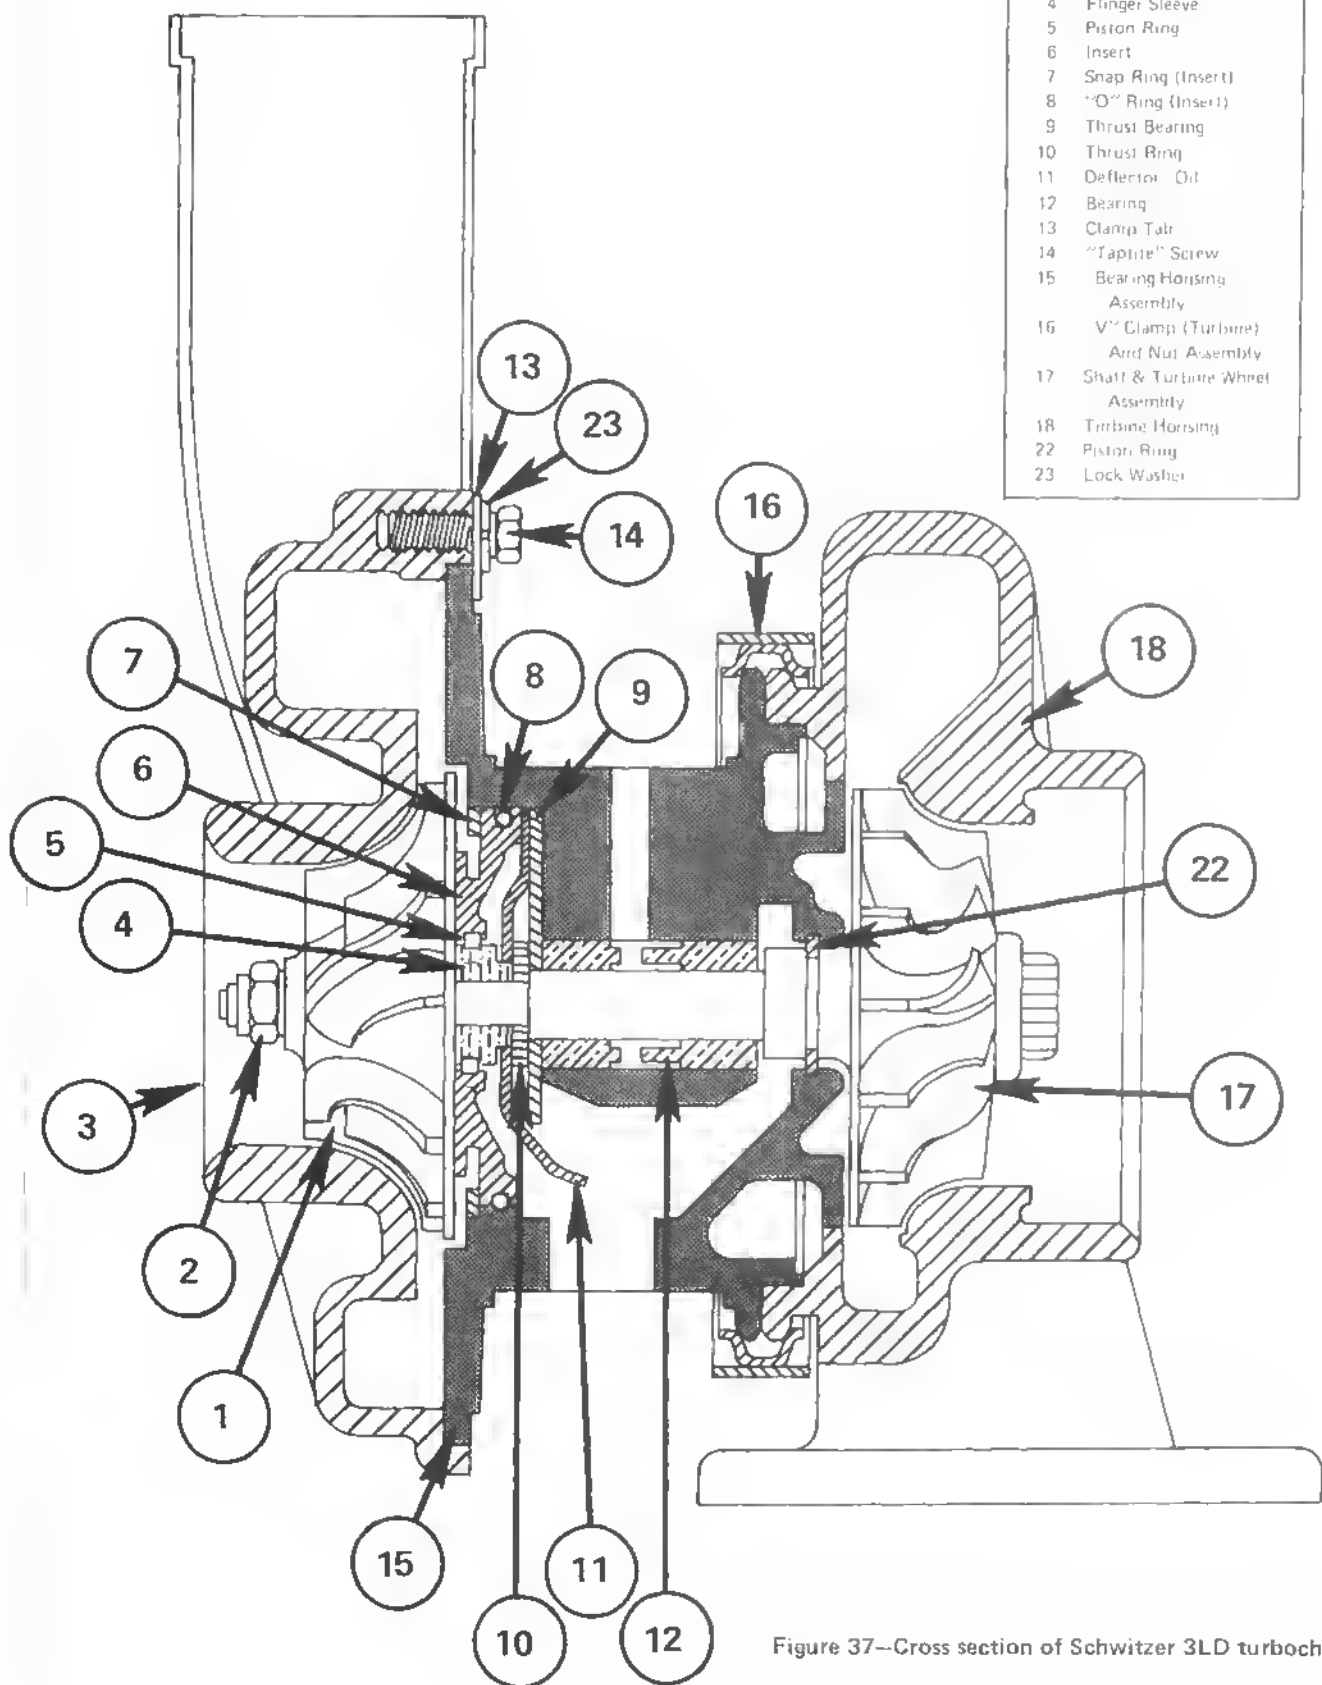

Figure 37—Cross section of Schwitzer 3LD turbocharger
Ways have been devised to prevent this, as shown in Figure 37, a cross-section of the Schwitzer Model 3LD Turbocharger. The area of the bearing where the oil enters has a thinner wall than the rest of the bearing, thereby minimizing the pumping action. In addition, holes in this area are relatively large compared to the wall thickness, making it a very inefficient pump. In Caterpillar(R) Patent 3,058,787